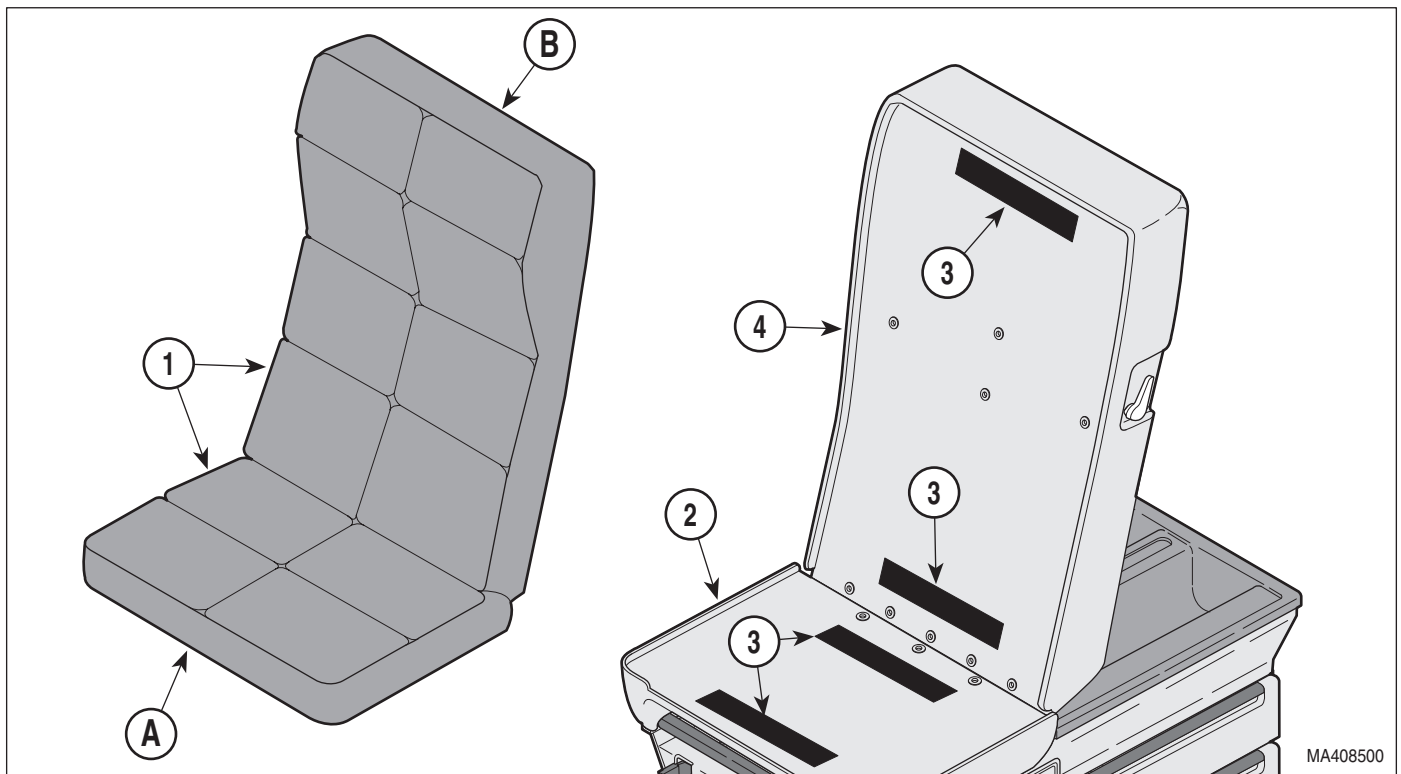

Figure 4-1. Upholstery Removal / Installation
(1) Remove the back / seat upholstery (1, Figure 4-1) by grasping both sides of the seat portion (A) of the upholstery and slowly pulling away from the plastic seat assembly (2). The cushions are held in place with velcro strips (3).
(2) Repeat the above procedure for the back portion (B) of the back / seat upholstery.